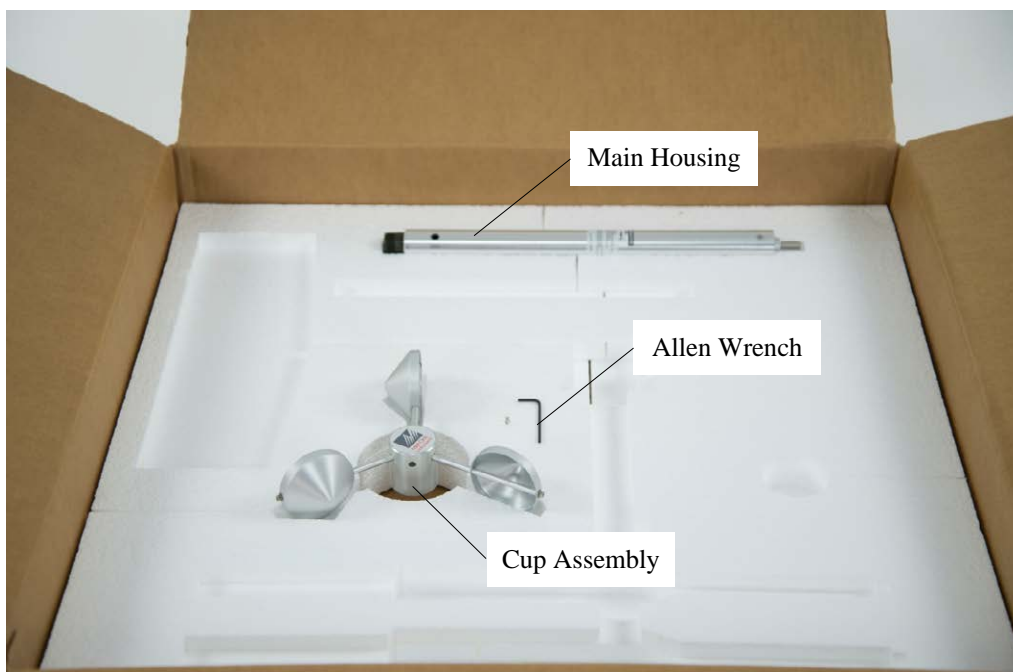

FIGURE 4-1. 014A shipping box
1. Take the cup assembly and main housing out of the shipping box (see FIGURE 4-1).